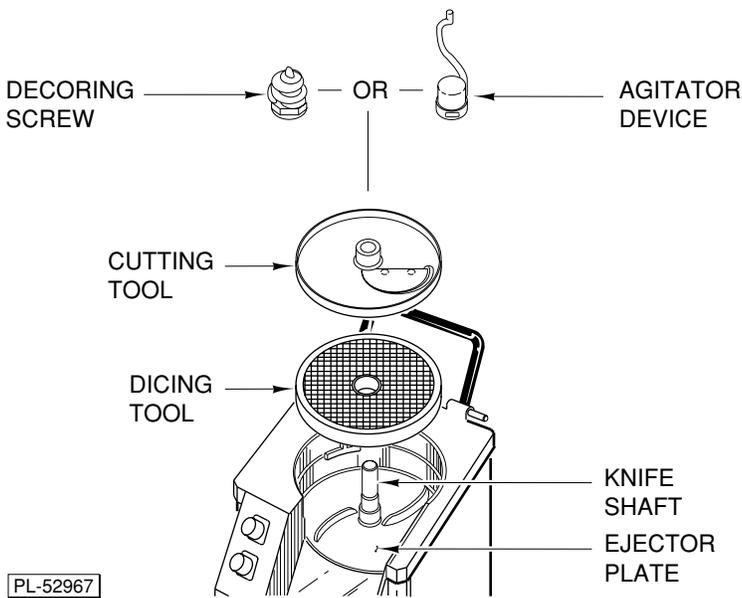

Fig. 4
2. Place the ejector plate (Fig. 4) on the knife shaft. Press the ejector plate all the way down and turn until the plate is in the locked position.